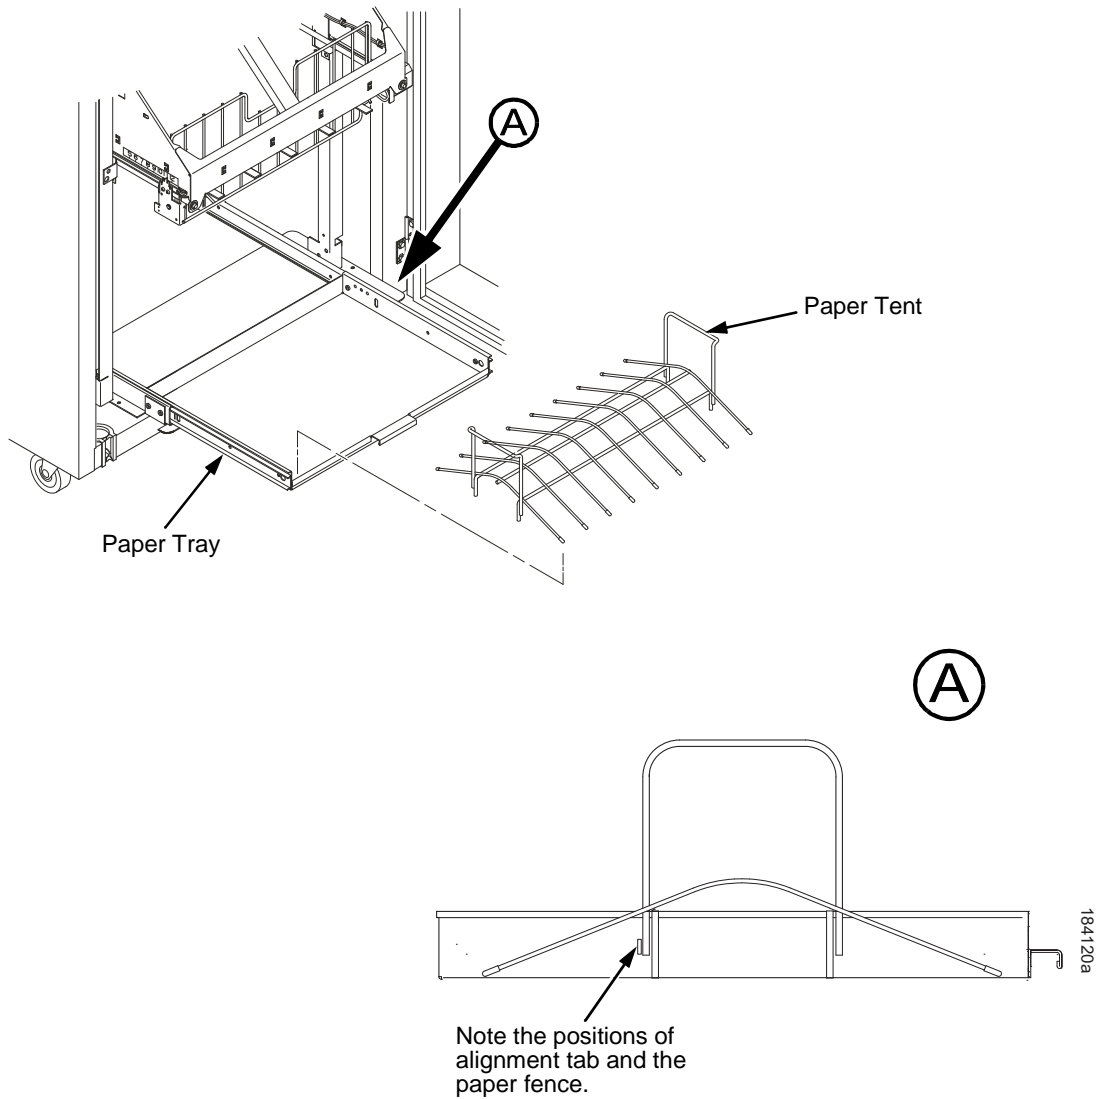

Figure 38. The Paper Tent
4. If the paper you will use is not wider than 15.5 inches (39.5 cm) pull out the paper tray and install the wireform paper tent. (Figure 38.) If the paper is wider than 15.5 inches (39.5 cm) leave the paper tent out of the printer.